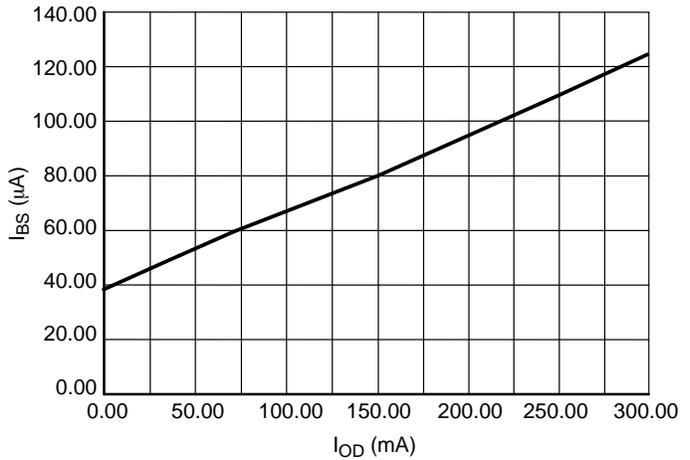

Figure 11. Bias/Set Current – Output Drive Current
a) The maximum output sink current is determined by the base drive current supplied to the lower transistors (QLs of Figure 5) of each output, which in turn, is a function of IBS. The appropriate value of IBS can be approximated using Figure 11.
For example, assume an application where  $V_M = 12$  V, the motor requires 200 mA/coil, operating at room temperature with no heatsink on the IC. From Figure 11,  $I_{BS}$  is determined to be 95  $\mu A$ .